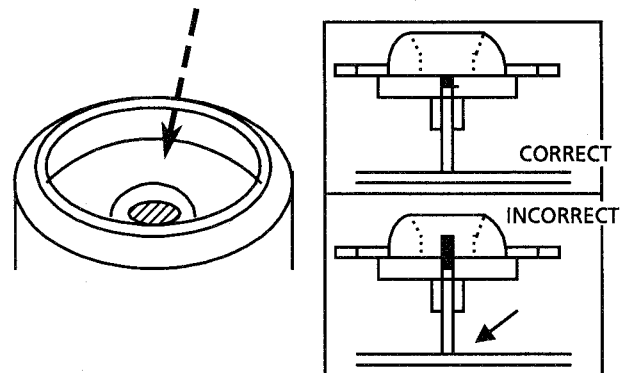

Fig 31
- (32) Use "LOCKTITE" #460 bonding agent, and apply as little as possible. Take care not to allow any excess bonding agent to get onto the turntable. Be extremely careful not to allow bonding agent to adhere to the motor bearings (the section marked by an arrow in fig 31 on the right).